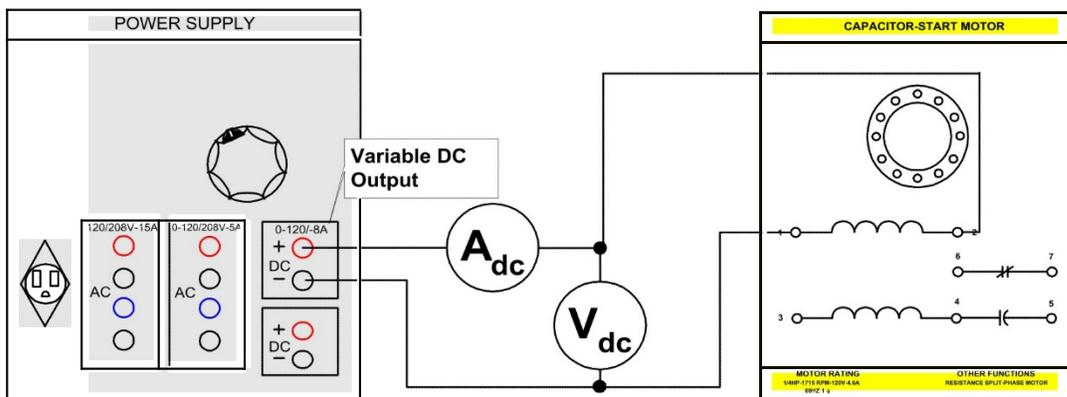

FIGURE 8.5
Step 7: Using the Power Supply, the Data Acquisition Interface (DAI) modules in the EMS workstation and Split-Phase Motor Modules, connect the circuit shown in Figure 8.5.